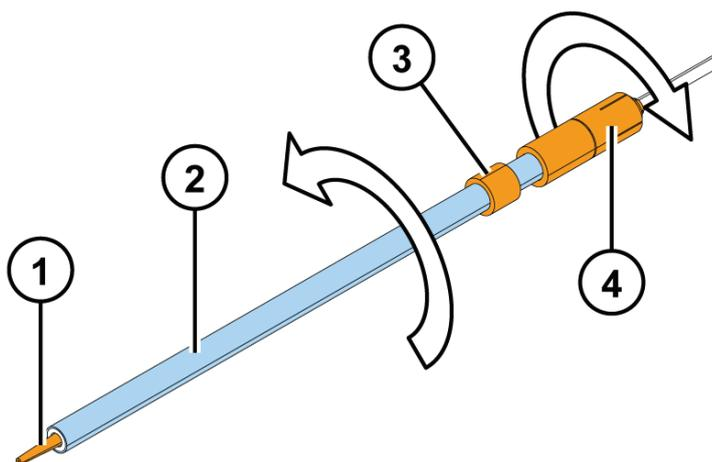

Figure 5–50 Replacing the dispensing tip (A)
To replace a dispensing tip (Figure 5–50):
1. Remove the dispensing head tube (Figure 5–50) from the brass tube holder (Figure 5–50) by turning the dispensing head tube counterclockwise and the brass part closest to it clockwise.